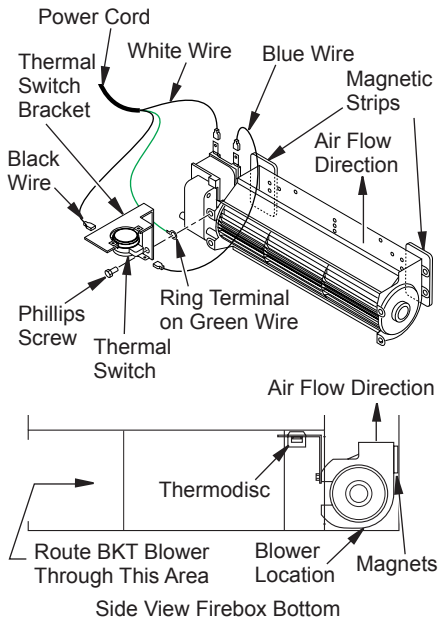

Figure 29 - Blower Model BKT
1. Place green ground wire with ring terminal between bottom hole on thermal switch bracket and top ear hole on blower assembly. Insert the Phillips screw into all three pieces and tighten securely (see Figure 29).
3. Place blower against lower rear wall of firebox outer wrapper with exhaust port directed upward and thermodisc positioned up near fireplace bottom. Thermodisc must be oriented near fireplace bottom as shown in Figure 29 in order to sense temperature and properly operate. Blower will be held in position against back wall by magnets incorporated onto the blower housing (see Figure 29).